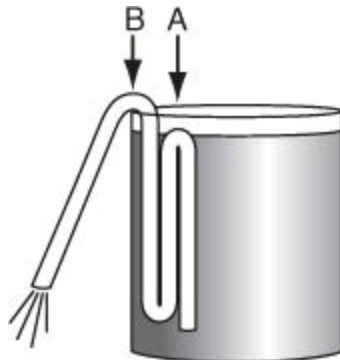

Figure SAT2.11TP2
2. If you push the tube down into the water as shown in Figure SAT2.11TP2 so that bend A is below the water level, the tube will become a siphon and drain the water out of the glass. Why does that happen?